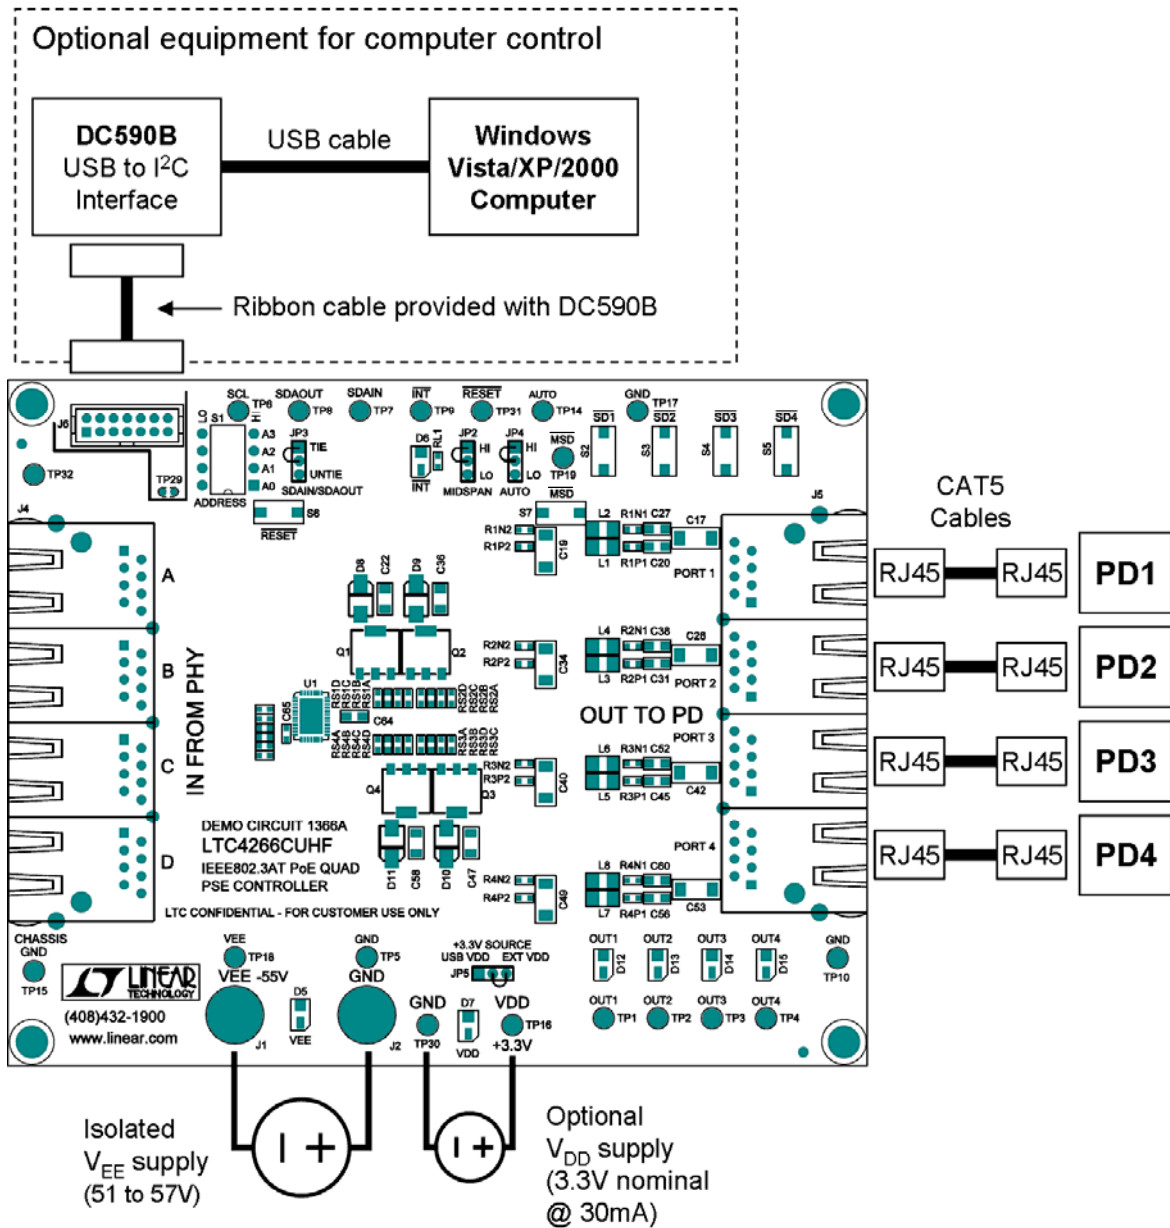

Figure 1. DC1366A Board Setup.
Figure 1 shows the basic setup. The LTC4266 requires two power supply rails: V_{DD} (nominally 3.3V) and V_{EE} (nominally -54V). The V_{DD} supply can be provided by the DC590B board or an external bench supply.
7. Connect the main power supply to the DC1366A board with two banana patch cords as shown in Figure 1. **Verify the polarity is correct before turning on the power; positive goes to GND and negative to VEE.**
2. Connect a 3.3V power supply to the TP16 and TP30 test points as shown in Figure 1. Turn on the 3.3V supply and verify the VDD LED on the DC1366A board is lit.
4. Connect the main power supply to the DC1366A board with two banana patch cords as shown in Figure 1. **Verify the polarity is correct before turning on the power; positive goes to GND and negative to VEE.**